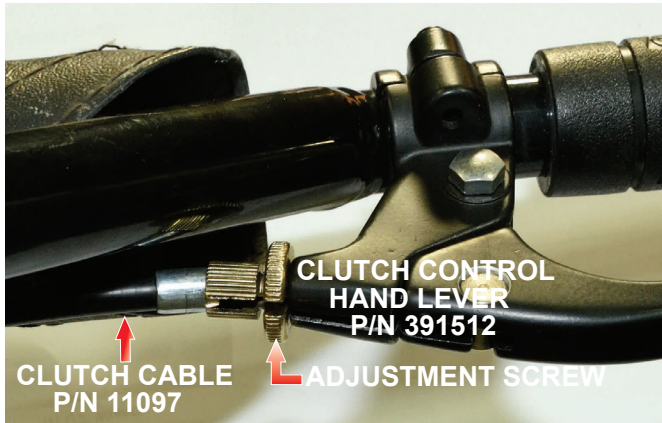

Figure 34. Clutch Cable to Hand Lever Connection
6. Insert the free end of the clutch cable (P/N 11097) into the clutch control hand lever (P/N 391512). Make sure the adjustment ferrule is fully seated and the adjustment screw is tightened securely. See Figure 34.